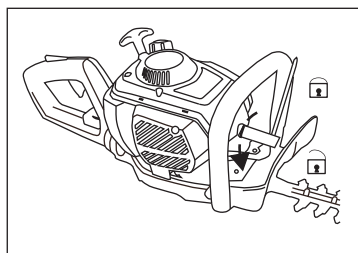

Fig. 28
3. Loosen the spark plug with the multi tool (24) anticlockwise and carefully remove it (Fig. 28).
4. Check the spark plug (18) for damage and wear. The colour of the electrode should be light brown coloured.
6. Dry the spark plug (18) with a soft cloth if it is wet from fuel.